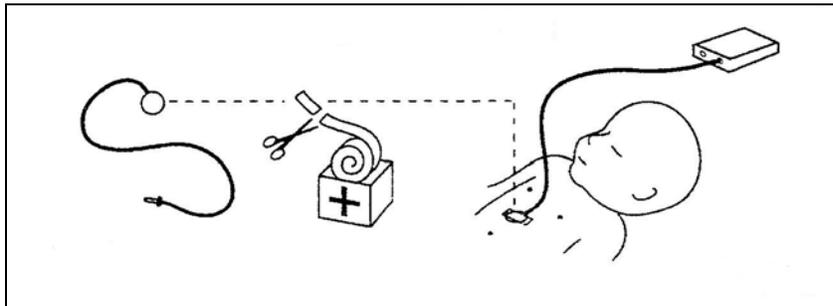

Figure 5 - A.R.S. Placement
6. Place the A.R.S. between the umbilicus and the xiphisternum (refer to Figure 5).